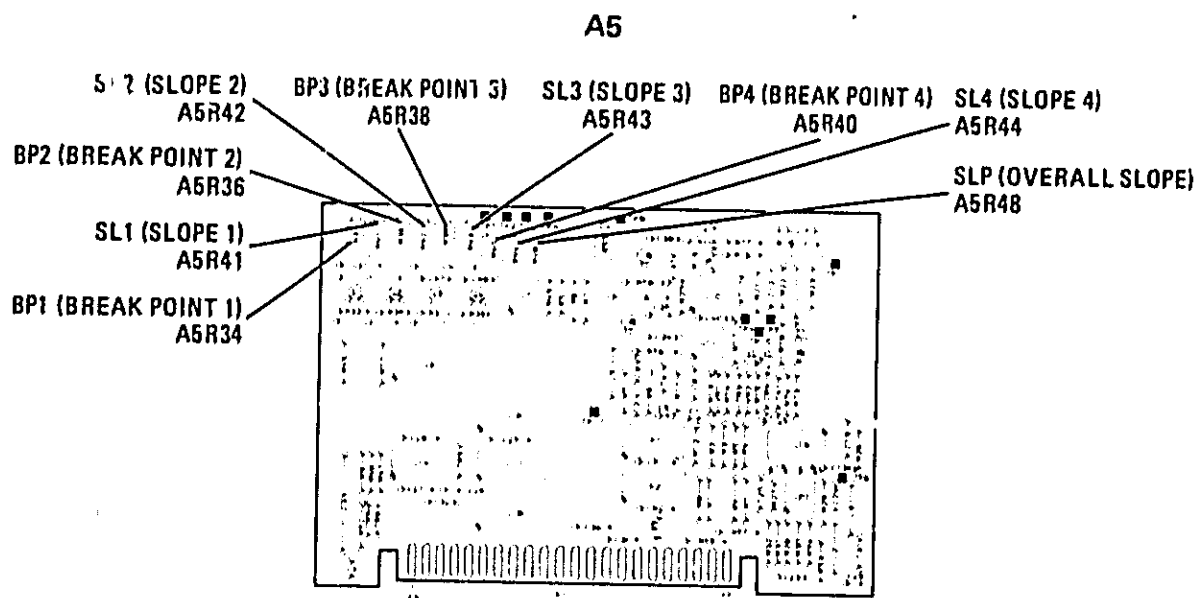

Figure 5-20. Internal Leveling Adjustments Location
2. Adjust all breakpoint potentiometers fully clockwise against the stops: A5R34 "BP1", A5R36 "BP2", A5R38 "BP3", and A5R40 "BP4" as shown in Figure 5-20. This effectively removes the circuit from the leveling loop.